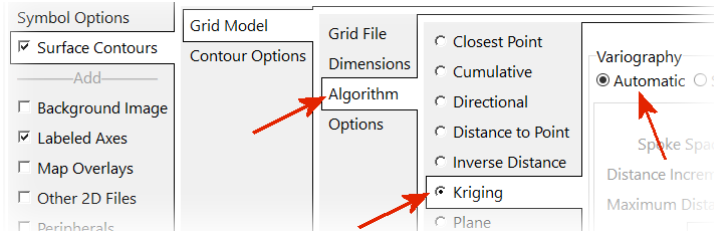

Figure 58
- Set the gridding Algorithm to Kriging / Automatic (Figure 58).